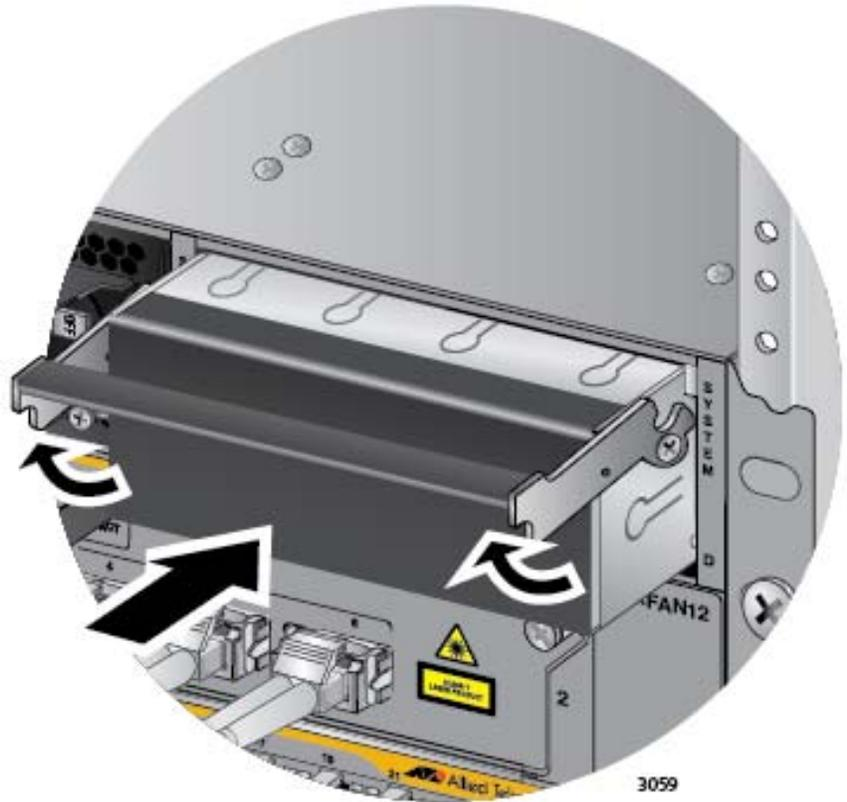

Figure 159. Installing a Blank Power Supply Slot Cover
13. Place the locking handle on the slot cover in the up position and slide the cover into the empty power supply slot. Refer to Figure 159 on page 251.